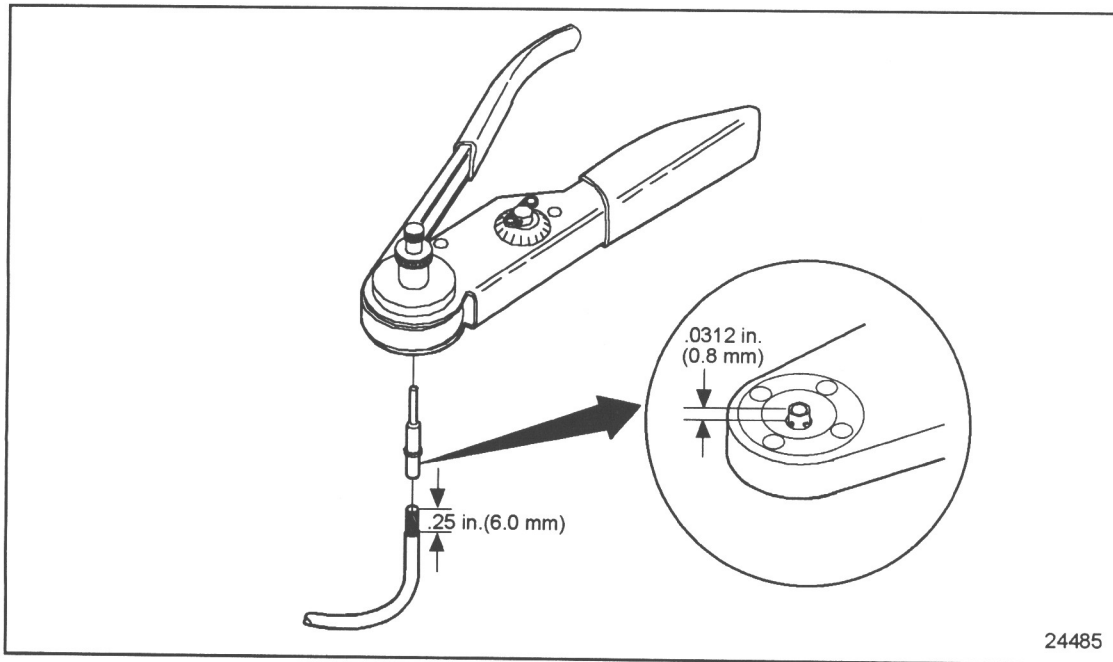

Figure 8-14 Setting Wire Gauge Selector and Positioning the Contact
4. Position the contact so that the crimp barrel is $1/32$ of an inch above the four indenters. See Figure 8-14. Crimp the cable.